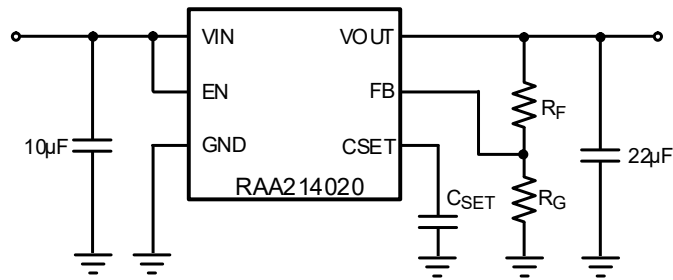

Figure 139. RAA214020 Simplified Application Schematic
The RAA214020 output voltage (V_{OUT}) can be programmed down to 0.9V and up to $5.5V - V_{DO}$ using the feedback (FB) resistors, R_F and R_G , as shown in Figure 139.